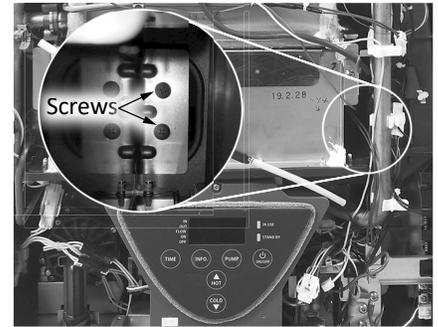

Figure 67: Heat Exchanger Screws
- 23 **NOTICE: Read this step carefully before performing any actions.** Cover electronics and anything directly under the water heater as some water will drain from the heat exchanger assembly during its removal. Remove and set aside the 4 screws securing the support bracket to the back of the water heater enclosure. The heat exchanger assembly must then be supported by hand, when removing the two screws securing it to the enclosure. To reach the screws, a magnetized tip Phillips-head screwdriver with a length of at least 8 inches or more must be used. See Figure 67. Once both screws are removed and set aside, begin the removal of the heat exchanger assembly. While supporting the heat exchanger base, tilt it outward from the bottom. Use care not to damage the water piping and other components under the heat exchanger. Once the heat exchanger assembly base is clear of the front of the water heater slowly lower it to disconnect the plastic exhaust duct from its fitting at the top of the water heater. The heat exchanger assembly should be placed on a secure surface, taking note not damage the various piping and wiring connections that are still attached.
35 **NOTICE: Read this step carefully before performing any actions.** To assist with installation have one of the screws that secures the side connection of the heat exchanger assembly affixed to the long magnetic tip screwdriver and within easy reach. Lift the heat exchanger assembly and tilt the top back and slide it in and up. The top of the plastic exhaust duct will mate with the exhaust port on the top of the water heater enclosure. The heat exchanger assembly must then be supported by hand, while installing the screws securing it to the enclosure. See See Figure 67 on page 57. Use the magnetic screwdriver with the screw